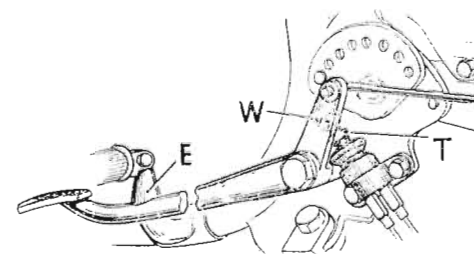

FIGURE 6.
**STOP-LIGHT SWITCH (Rear Brake):—**This is actuated by the brake pedal and is operated by the adjustable stop (T) FIG. 6, locked by the nut (W). With the switch plunger fully depressed (by hand) and the brake pedal against its stop on the footpeg, there should be 1/32" gap between the stop (T) and the plunger. Adjust as required until this condition is obtained.